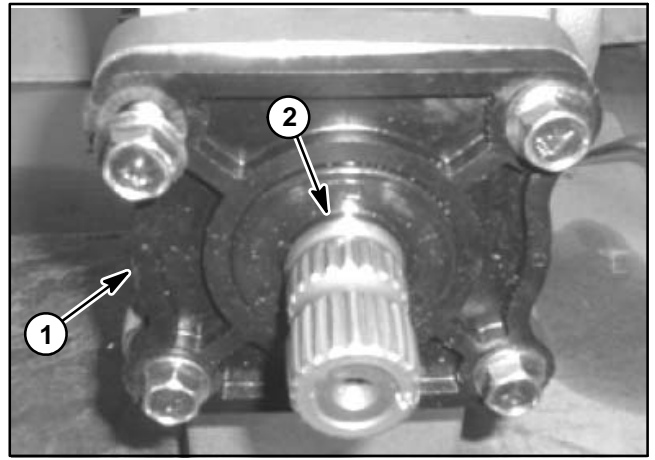

Figure 9
2. Remove the four (4) flange head screws from the input cover (Fig. 9). Remove the cover.